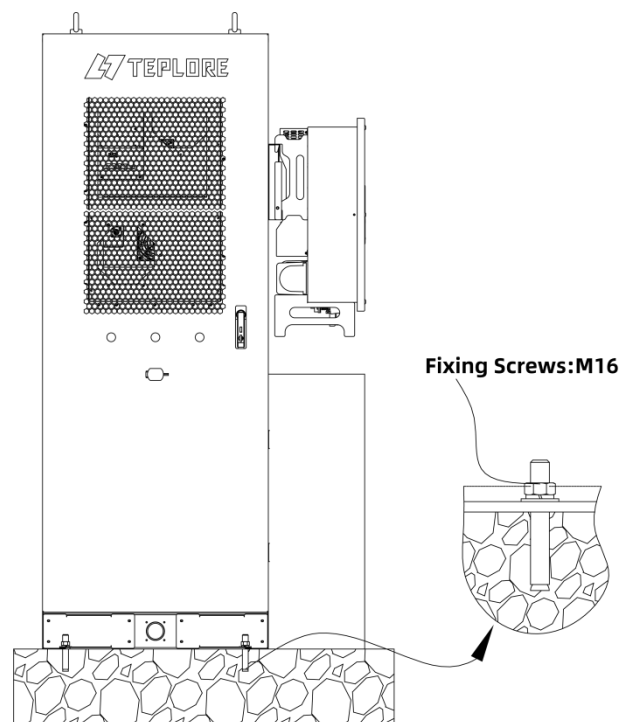

Figure 6-1 Screw the cabinet
Step 2: Secure the equipment at all four bottom corners with M16 fasteners as shown in Figure 6-1.